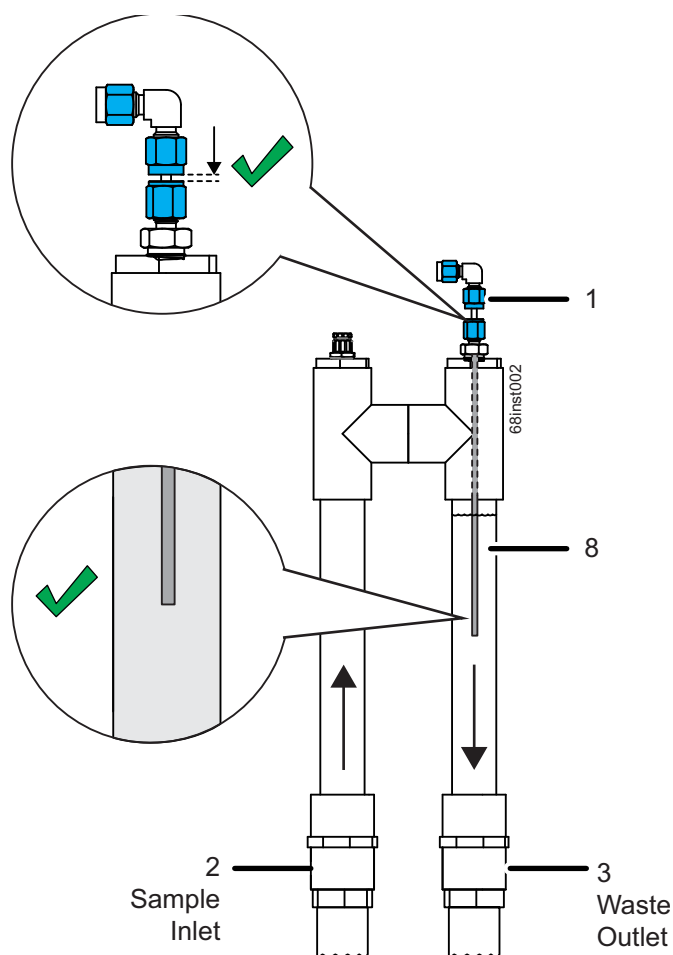

Figure 26: Velocity Mode — Installing Sipper Tube
14. The needle (1) height comes preset for *Velocity Mode* (see Figure 26).